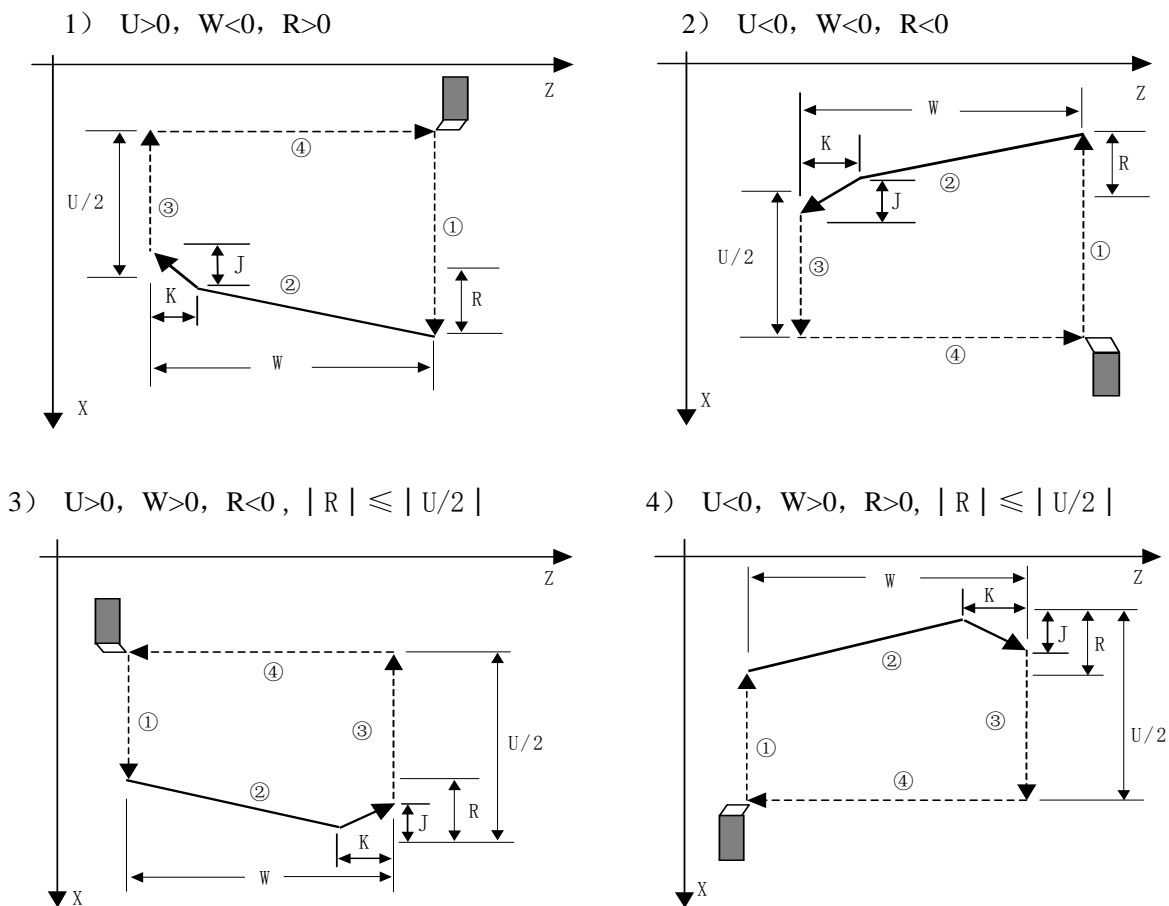

Fig.3-46
- The direction of A→C→D→E is defined by signs of U,W , and the direction of C→D is defined by the sign of R(i) . There are four kinds of sign composition of U, W corresponding to four kinds of machining path as Fig. 3-46.